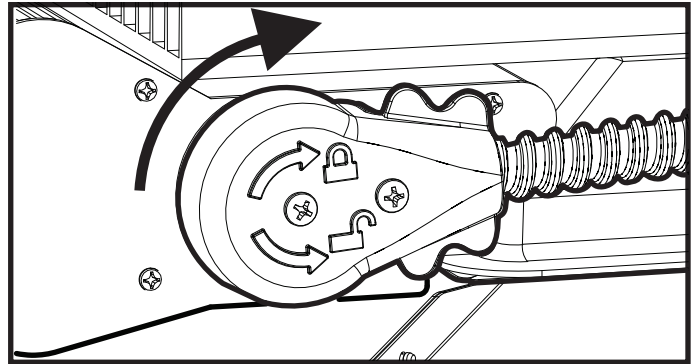

Figure 5
- Push the connector completely over the pins and rotate the whip clockwise until locked. (see Fig 5).